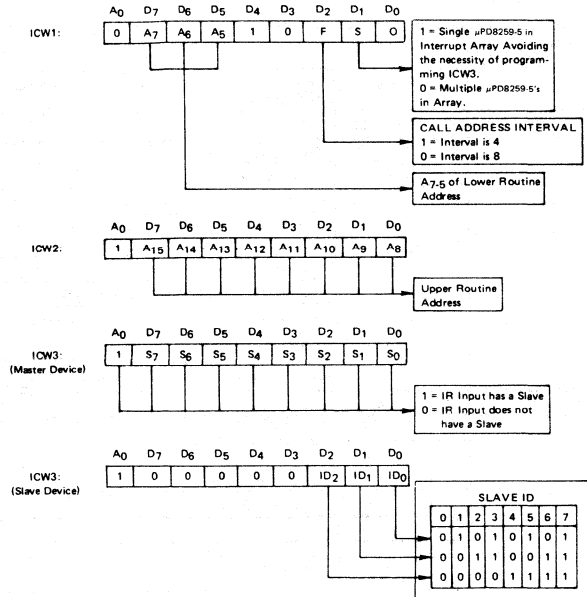

FIGURE 2
Each μPD8259-5 in the interrupt array must be initialized prior to normal operation. The initialization is performed by a 2 or 3-byte sequence clocked by WR pulses. Figure 1 shows this sequence. (Refer to Figure 2 for bit definitions.)
- Notes: ① Reference Figure 2
When operating in interrupt modes where the priority order of the interrupt inputs is not preserved (e.g., rotating priority mode) the last serviced interrupt level may not be known. In these modes a Specific End-of-Interrupt must be issued to clear the ISR bit at the completion of the interrupt service routine. The SEOI is programmed by setting the appropriate bits in OCW3 (Figure 2) to logic "1"s. Both the EOI and SEOI bits of OCW3 must be set to a logic "1" with L2, L1, L0 forming the binary code of the ISR bit to be reset.